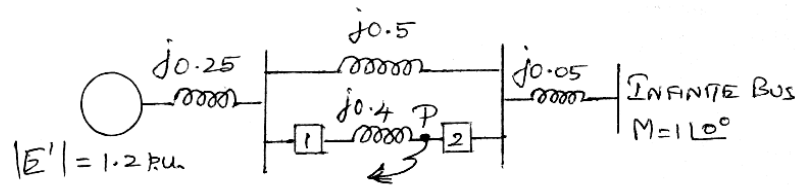

Figure 15 (b) (ii)
- (ii) A three phase fault is applied at the point P as shown in Figure 15(b) (ii) below. Find the critical clearing angle for clearing the fault with simultaneous opening of the breakers 1 and 2. The reactance values of various components are indicated in the diagram. The generator is delivering 1.0 p.u. power at the instant preceding the fault.